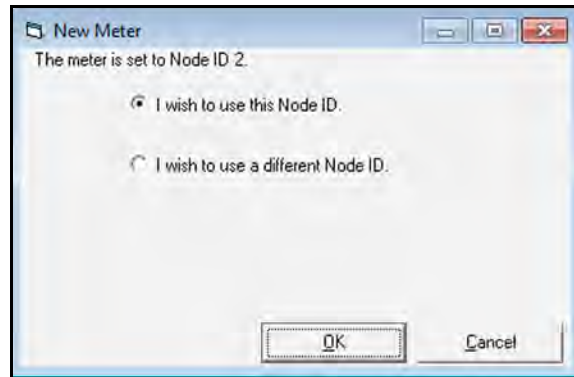

Figure 4: The New Meter Node ID
5. Right click on *Com Port* icon and select *New Meter*. On first screen of the *Add New Meter* wizard select “*I don't know the node ID of the meter I am adding to the network*” and click **OK**. On the second screen select “*It is the only meter connected to the communications port*” and **OK**. If the meter is found, a screen similar to *Figure 4* below will open. Click **OK**.